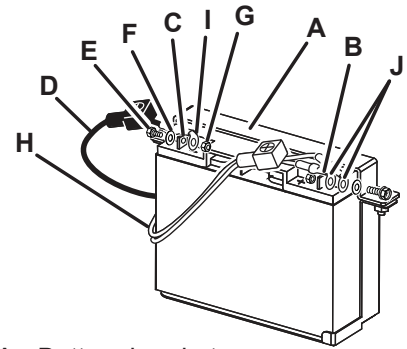

Fig. 10
3. Remove the cover from the battery's negative (-) terminal and connect the black cable to the battery's negative (-) terminal as shown in Fig. 10.